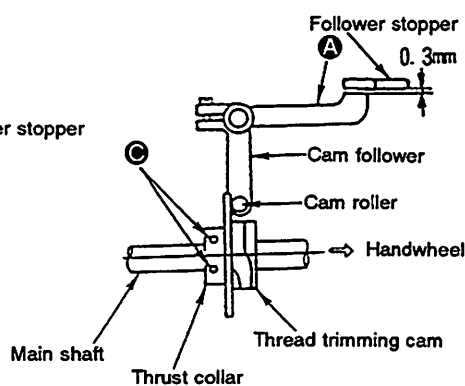

Fig. 5-15-2
- 1) When part **A** of the cam follower is pushed down to maximize the clearance between the follower stopper and the cam follower, the clearance should be 0.3 mm. (Fig. 5-15-2)